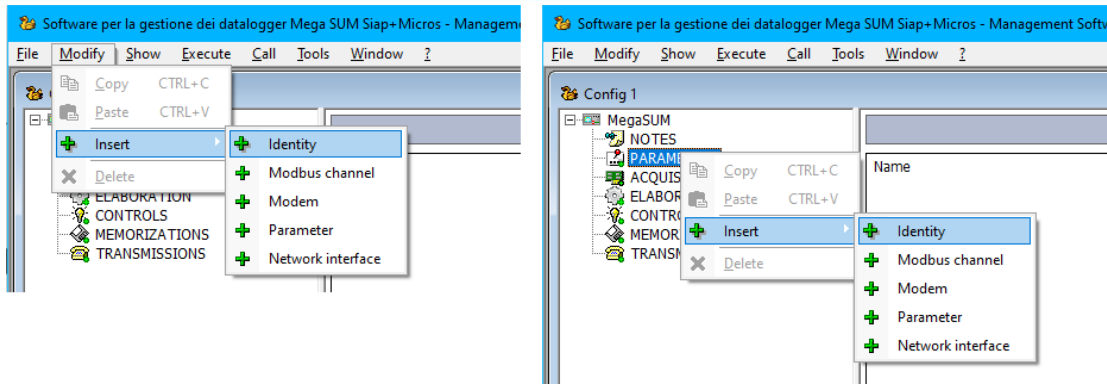
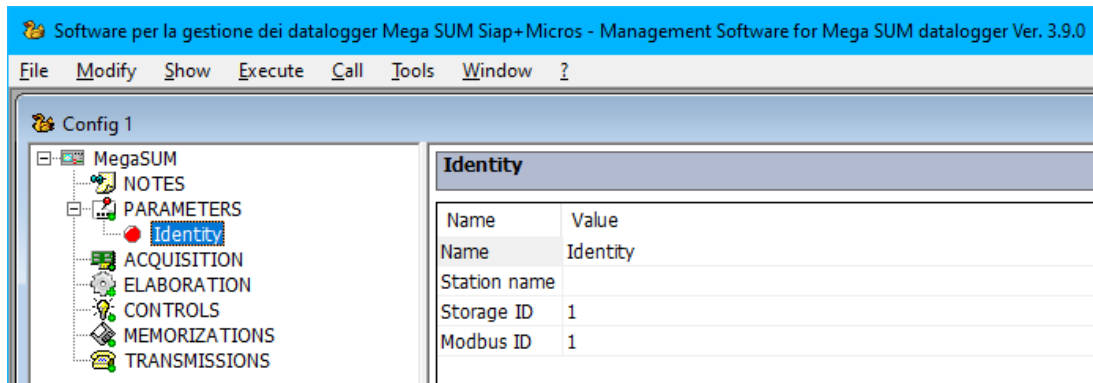

Figure 15.3: insert of an entry from Parameters section.
Figure 15.4: configuration fields of datalogger identity.
- From *Modify* menu select *Insert*, a list of all elements available for that section will appear (Figure 15.3 left).
- Alternatively, right-click on the section and select *Insert* (Figure 15.3 right).
For example, Figure 15.3 shows how to insert the identity of the datalogger from Parameters section and Figure 15.4 shows how the configuration tree will appear after the insertion of the identity. Please note that the configuration fields are listed on the adjacent window where the user can change their values.